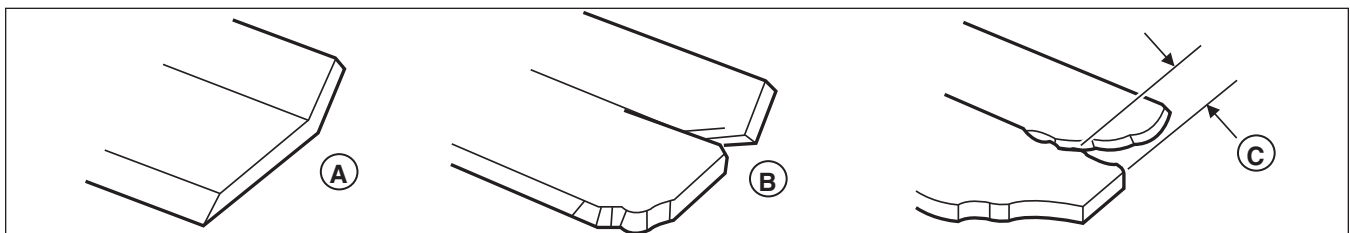

Figure 20. Inspecting the Mower Blade Air Lifts
- The air lifts are excessively eroded (B & C, Figure 20) and the notch (C) is .25" (6,35 mm) deep or greater.